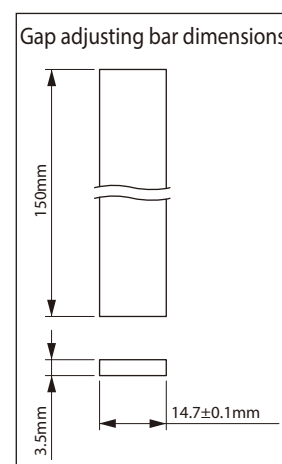

Figure 8-29
- (3) Insert the gap adjusting bar (customer to prepare an angle plate. See Figure 8-29) from between the outer disc [14] and the center ring [1] into a hole for a gap adjusting screw [2].